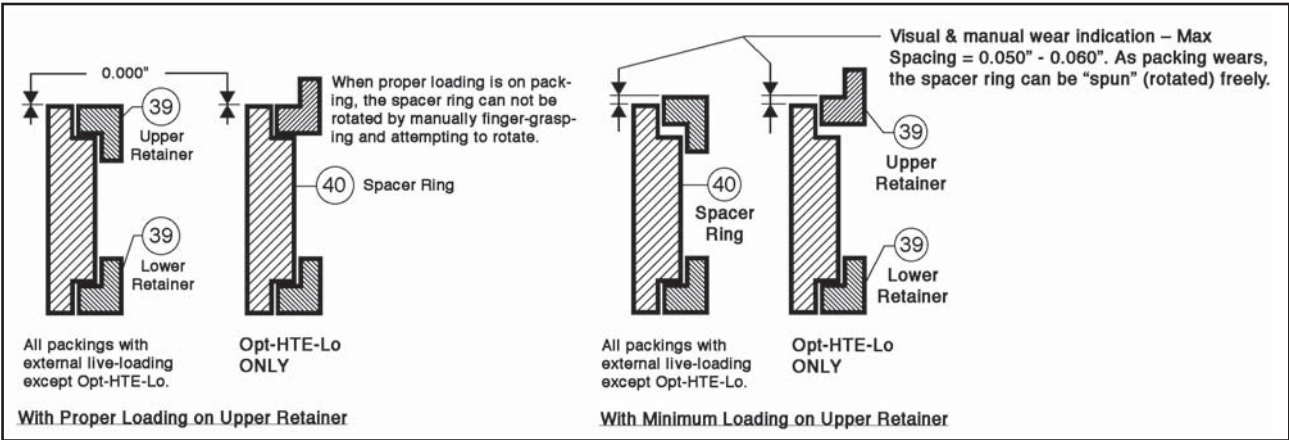

Figure 11: Dimensionals for Proper Packing Load
- a. Ability to “freely spin” the spacer rings (40).
- b. Measure the spacing between the upper retainers (39) spacer rings (40) (see Fig. 11).